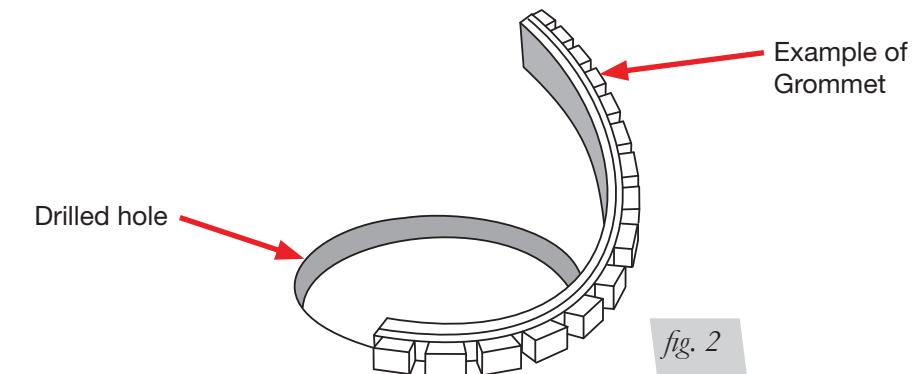

fig. 2
- Avoid routing air lines and wiring near sharp edges. If passing air lines or wiring through holes in the frame, use rubber grommets (not supplied) (Fig. 2). Support wiring and air lines every 8-12" (200-300mm) with zip ties or other means.